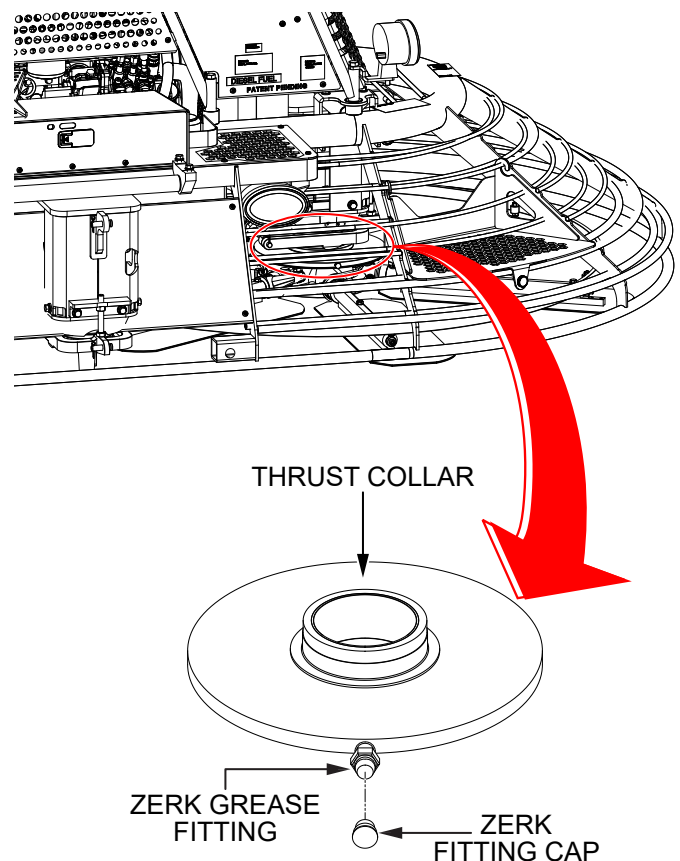

Figure 32. Thrust Collar Lubrication
1. Locate the Zerk grease fitting on either thrust collar (Figure 32). Remove the Zerk grease fitting cap and set it aside.